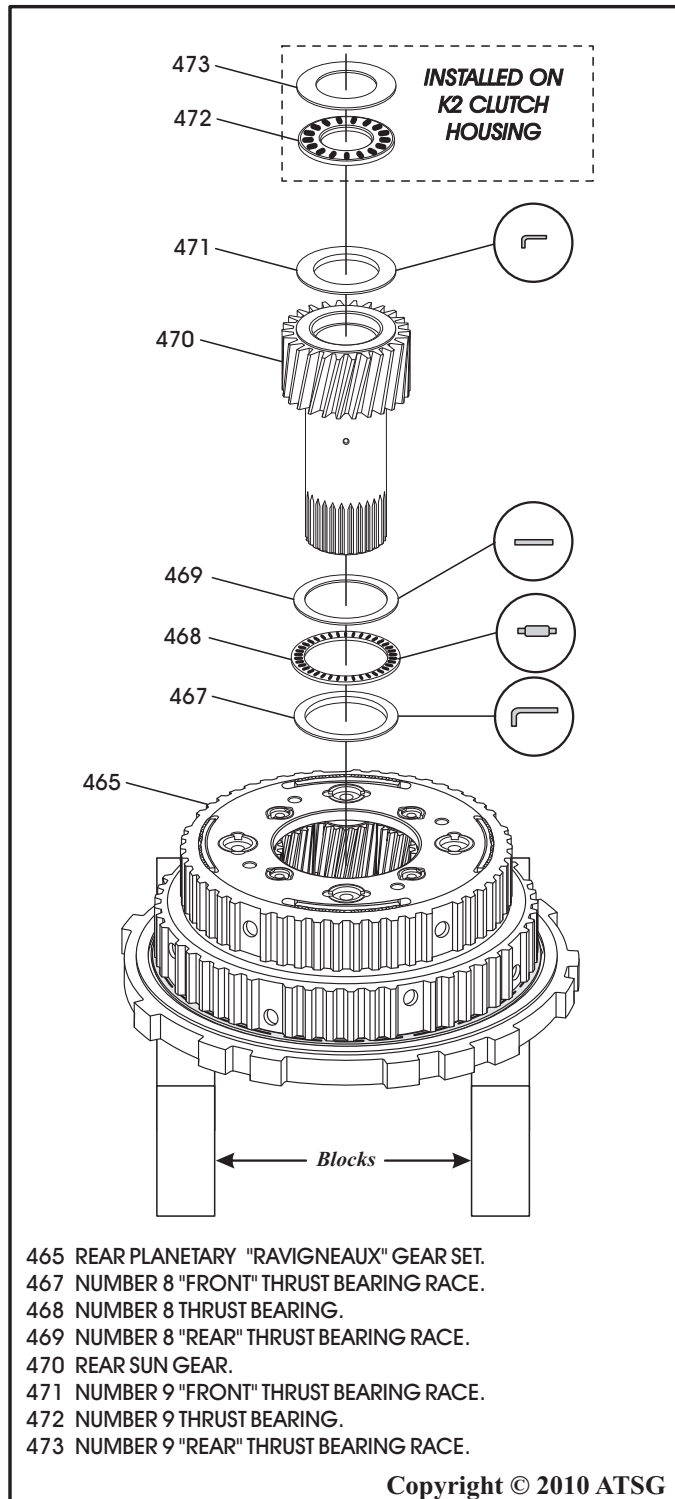

Figure 133
8. Install the number 8 "front" thrust bearing race into the pocket of front sun gear in planetary carrier, as shown in Figure 133.
9. Install the number 8 thrust bearing into carrier, as shown in Figure 133.